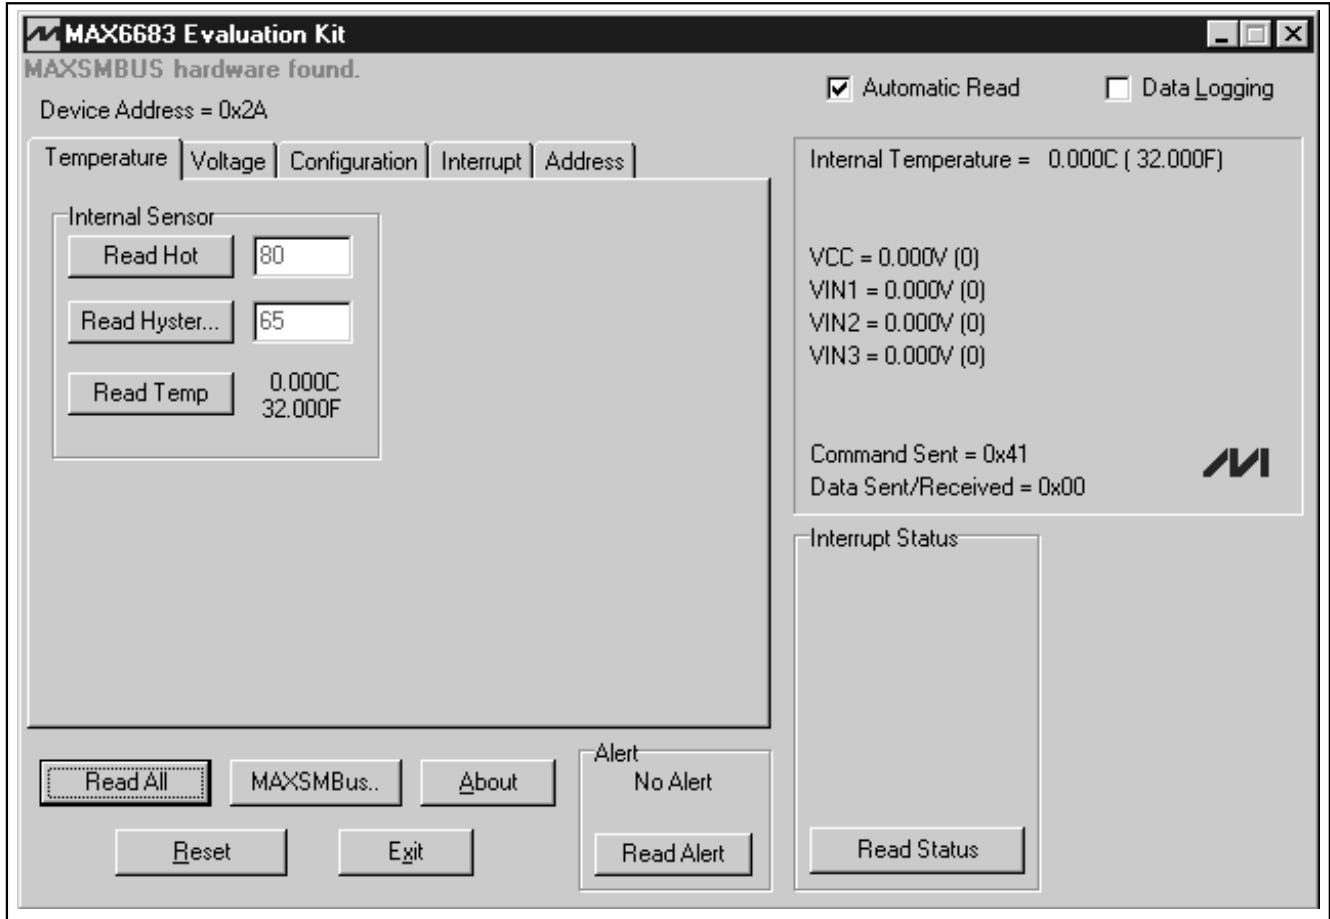

Figure 1. User-Interface Panel for MAX6683EVKIT
- 14) Wait until the program automatically detects the address of the MAX6683 and displays the user-interface panel (Figure 1).